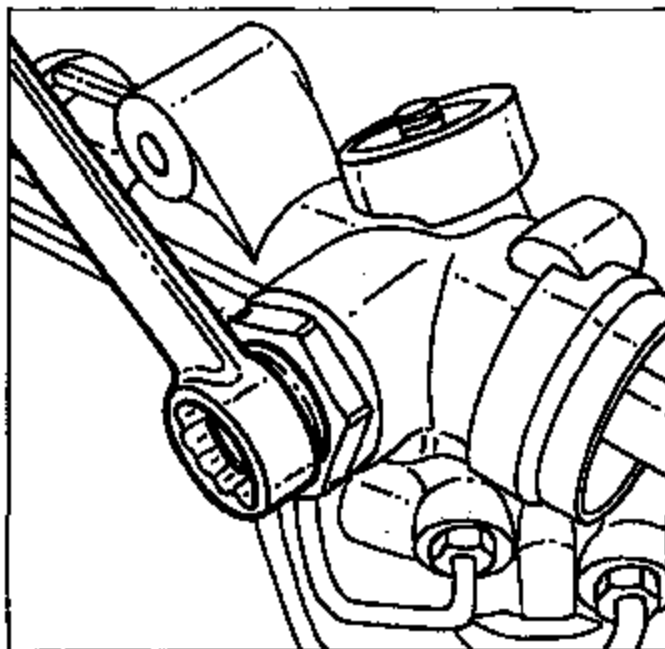

Figure 1
STEP 2 Loosen adjuster locknut and adjuster plug before tool use. Failure to loosen this adjuster plug increases the extraction force needed to remove the bearing (*See Fig. 1*)